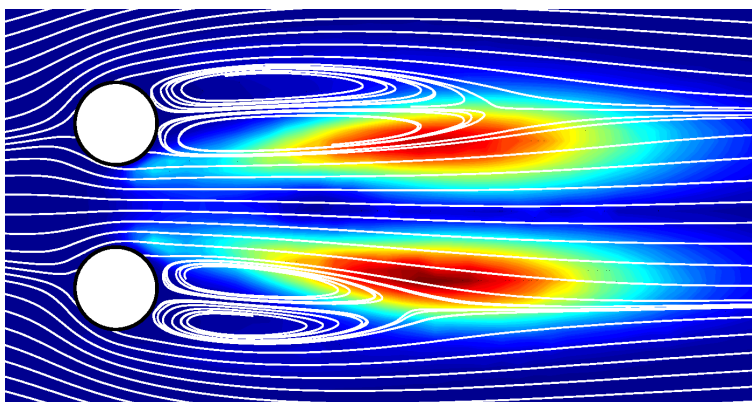

Figure 13: *Structural Sensitivity overlaid on base flow streamlines.*
**Note that: in figure 13, streamlines cross the bodies: it's just a numerical error due to an inaccurate streamline plotting!**